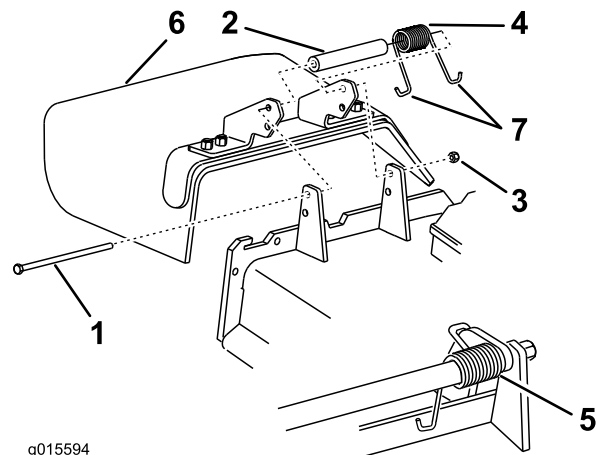

Figure 100
Note: Make sure that one **J**-end of the spring is installed behind the deck edge before installing the bolt as shown in Figure 100.
3. Install the bolt and the nut. Place one **J**-hook end of the spring around the grass deflector (Figure 100).
1. Remove the locknut, bolt, spring and spacer holding the deflector to the pivot brackets (Figure 100). Remove damaged or worn grass deflector.